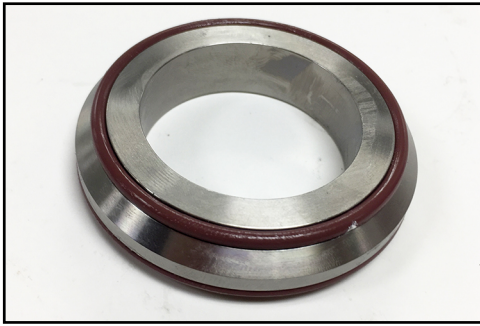

Figure 103 - Cap-to-screw O-ring installed
4. Figure 103 shows the cap-to-screw O-ring installed on the seal cap.